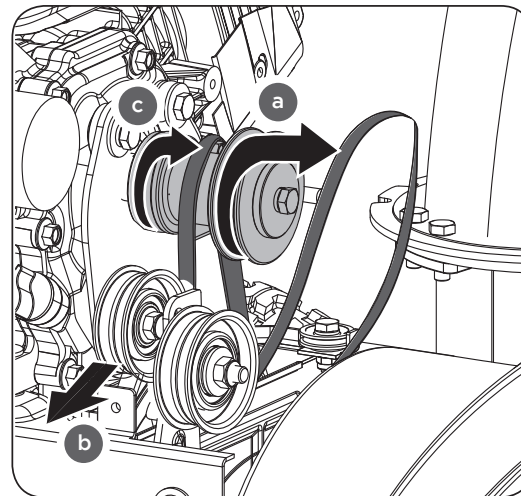

Figure 18a
- c. Lift the drive belt off engine pulley. (See **Figure 18a**)